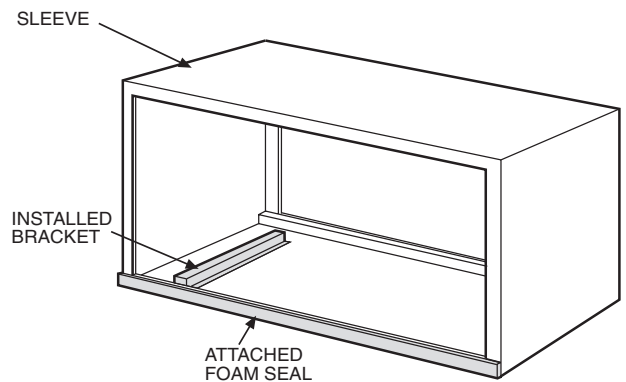

Fig. 2 — Attach Bracket to Amana Metal Sleeve
- Install bracket (supplied in kit) inside the metal sleeve as shown in Fig. 2. This is to ensure the unit will be level when it is placed into the metal sleeve.
3. Attach foam seal (supplied in kit) to the bottom front face of the Amana sleeve as shown in Fig. 2.